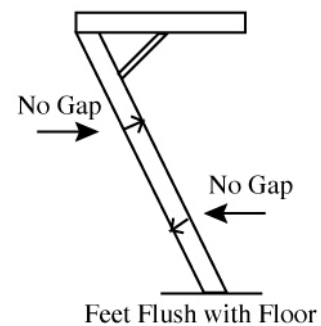
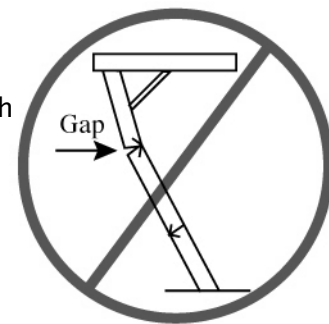

Fig. 2
Fig. 3
STEP 3: The foot supports supplied with your stair should be attached according to length required to allow the bottom of the stair to fit flush with the floor (Fig. 2). According to the measurements taken in STEP 2, the bottom section may or may not need to be cut.
STEP 4: If cutting is necessary, cut each bottom stringer to the proper length along the reference line. Attach the foot supports with the nuts and bolts provided. A hole must be drilled in the bottom aluminum extrusion (if not pre-drilled) to attach the foot supports. The bottom of the aluminum extrusion must extend into the foot supports a minimum of 3 1/2 inches. The bottom section of the stairs should fit flush with the floor on both sides after cutting (Fig. 2).
STEP 5: Check to make sure the stairs fit flush with the floor and that all joints are tight with no gaps (Fig. 2). If the stairs are too long (Fig. 3), trim them again. If the stairs are too short (Fig. 4), do not use them. Contact your vendor or The Marwin Company.